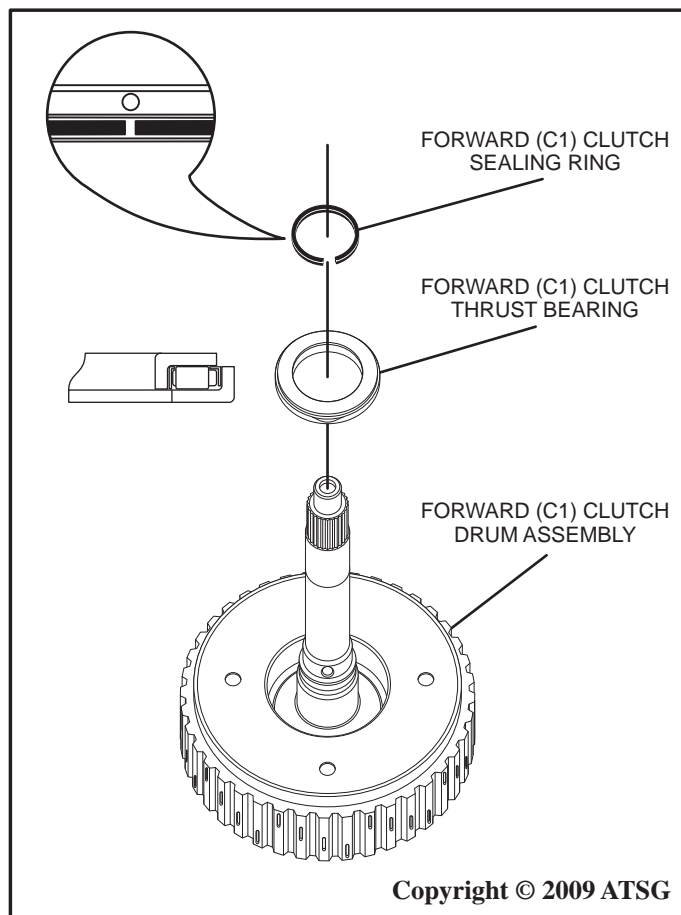

Figure 104
14. Coat the thrust bearing with a small amount of Trans-Jel® and install the bearing into the drum as shown in Figure 104.
15. Install a new sealing ring into the drum and coat with a small amount of Trans-Jel® as shown in Figure 104.